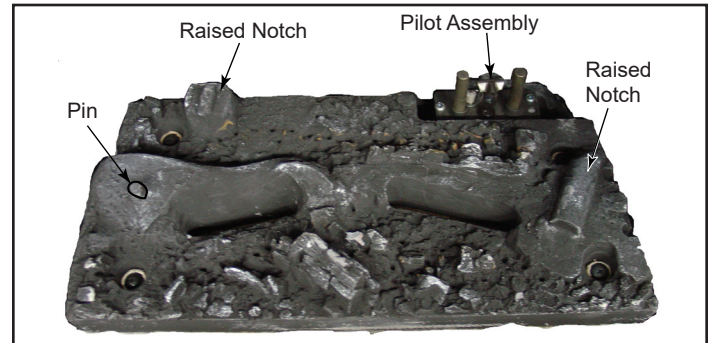
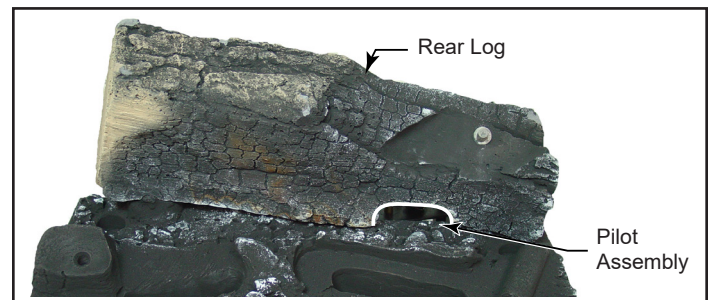

Figure 3.26 - Rear Log
Figure 3.27 - Ribs for Logs
2. Install the rear log by mating the notch on the bottom of the log with the raised notch on the back left side of the ember bed, Figure 3.26. Ensure the cutout in the right side of the log is sitting around the pilot assembly and pilot is not obstructed, Figure 3.27.